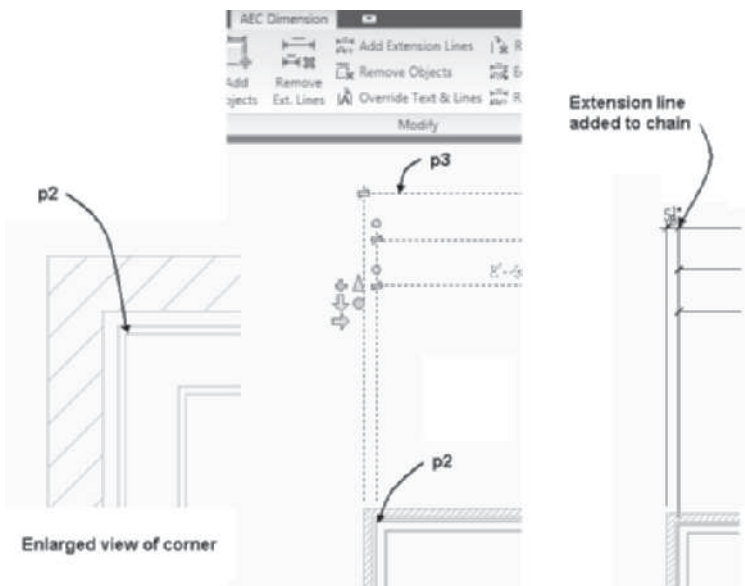

FIGURE 11.95 Extension line added to AEC Dimension
13. In this step you will add an extension line to Chain 3 from the outside surface of the stud. Select the AEC Dimension of the exterior wall at **p3** as shown in Figure 11.95 and choose Add Extension Lines from the Modify panel. Respond to the workspace prompts as follows:
Pick dimension points on screen to add: (SHIFT + right-click, choose the Endpoint object snap, and select the outside stud surface at **p2** as shown in Figure 11.95.)
Select Dimension chain: (Choose the dimension line at **p3** as shown in Figure 11.95.)
(Press ESC to end the command and display the extension line as shown at the right in Figure 11.95.)